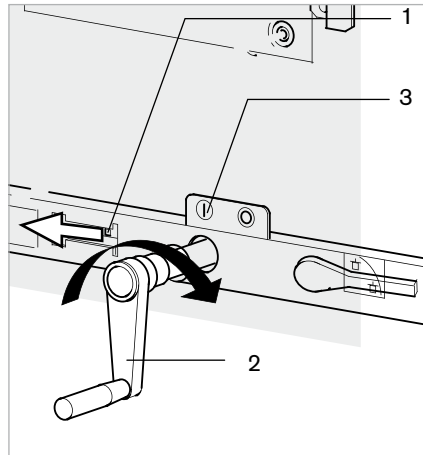

Fig. 49
1. Press the interlocking slide (Fig. 49, item 1) to the left and hold it. Insert crank through the opening in the door onto the drive shaft of the truck (2).
2. Turn crank clockwise until the position indicator above the crank indicates "I" (Fig. 49, item 3). Remove crank.